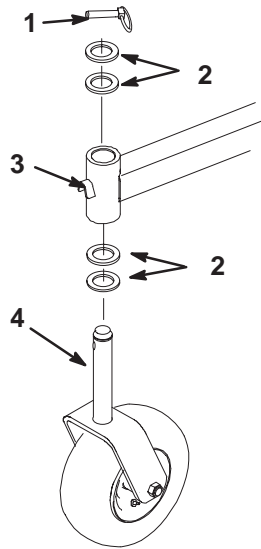

Figure 59
2. Remove the locking pin and spacer(s) from the top of the caster wheel fork (Fig. 59).
7. Slide the caster wheel fork through the bushings in the mounting tube. Replace the spacers(s) onto the fork and secure with the retaining ring (Fig. 59).